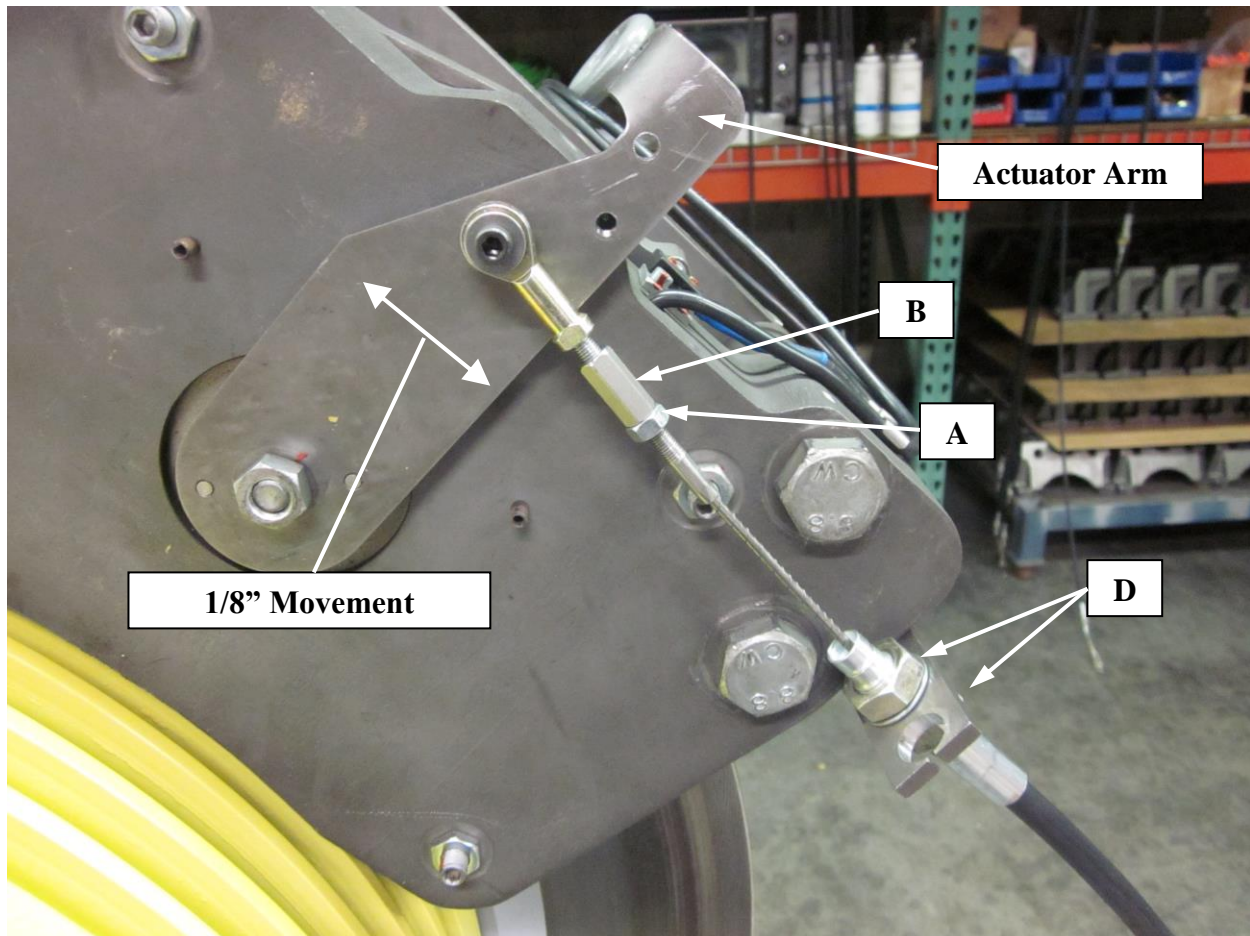

Figure 19
- **IMPORTANT:** With Brake de-energized - Air Gap at “B” should be less than .040”. If air gap measures greater than .040”, consult Hollister-Whitney. Figure 19